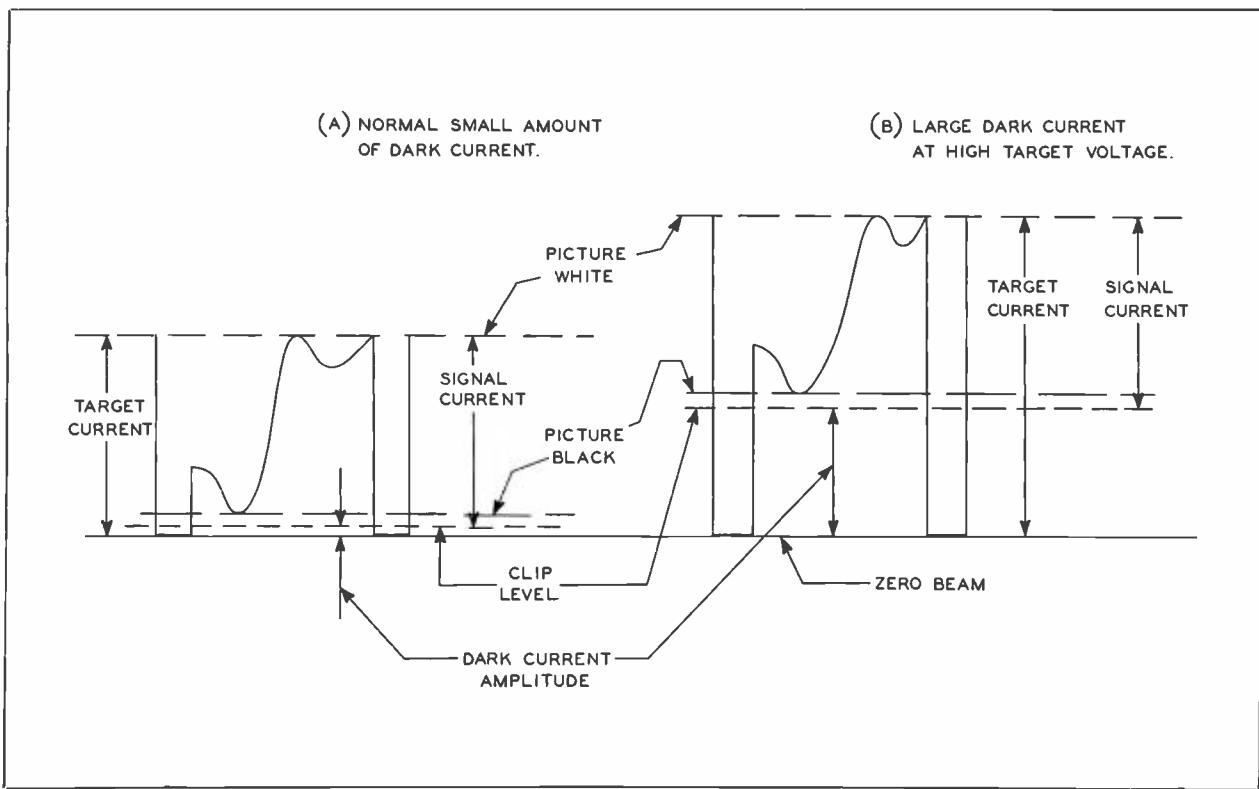

FIG. 8. Diagram showing effect of change in dark current.
The total current flow in this loop may be defined as *target current*. When the target is dark, its resistance is not infinite, and there will be residual target current flow (normally quite uniform over the whole target area, especially in the new 7038 vidicon) known as *dark current*. By permitting light to fall on the target, the current increases. The difference between *total target current* and *residual dark current* may be defined as *useful signal current*. Since dark current is reasonably uniform, it may be considered as a d-c component of the total video signal. This is illustrated in Figure 8 where (A) and (B) show typical conditions for two different values of dark current.
Because dark current is not useful signal current, it is desirable to keep it at a minimum, and if possible, to keep it small compared to signal current, see Fig. 8(A). Under such conditions, temperature changes, even though they cause a 2-to-1 increase in dark current, make little difference in the relation of dark current to signal current. However, when the dark current is relatively large, as in Fig. 8(B), a 2-to-1 change in dark current causes a noticeable change in pedestal setting in the video signal, and may require readjustment of the pedestal control. Furthermore, a large increase in dark current may require an increase in beam current.